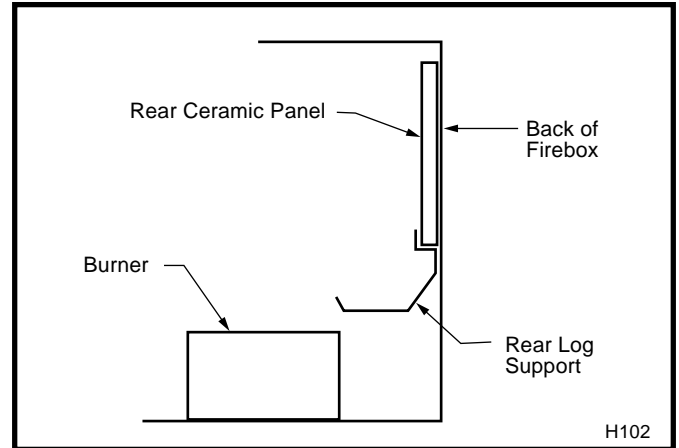

Fig. 34 Rear ceramic panel placement.
4. Place rear ceramic panel in back of unit. (Fig. 34)